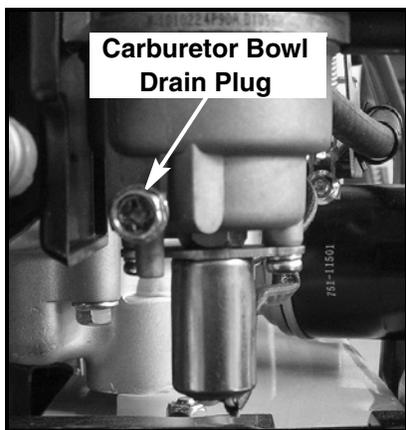

FIGURE 3
4. Drain the fuel tank or clamp off the fuel line to the carburetor. Drain the carburetor's fuel by removing the fuel bowl drain plug and gasket, P/N 951-11349. When bowl is drained, replace the fuel bowl drain plug. **Torque the drain plug to 7 - 9 Nm (62 - 80 In-Lbs.)** See Figure 3.